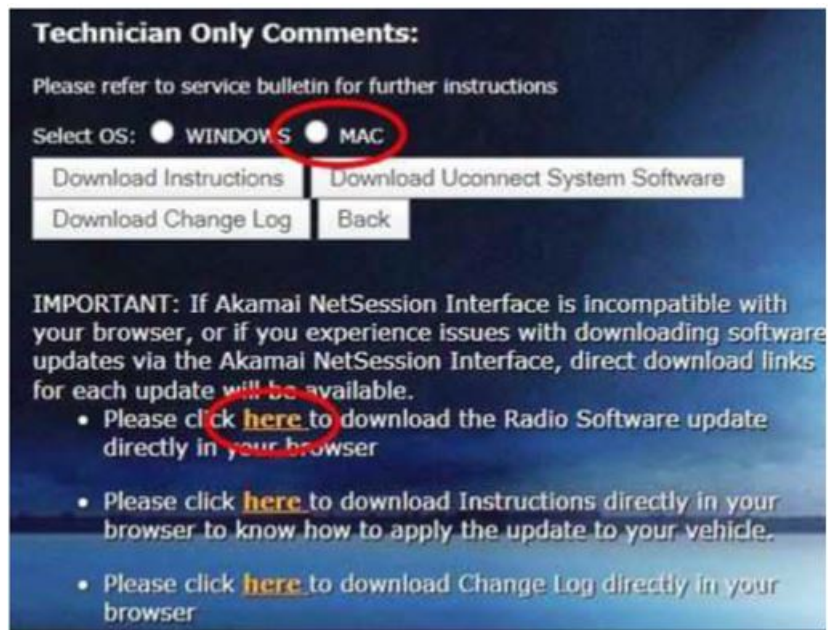

Fig. 3
5. Download the software update file to your local PC's desktop. Make sure to select the "MAC" radial button for all downloads (Fig. 3) .